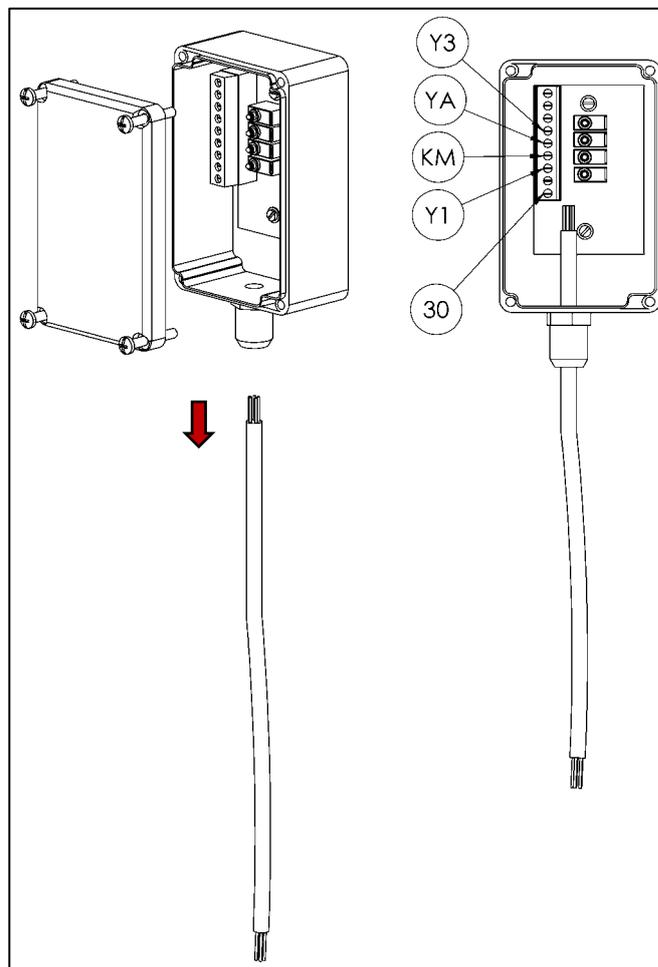

Figure 34
- Disconnect the service switch box from the cable by loosening the screw terminals in the housing (see Fig. 34).
- Reconnect the service switch to the routed cable as shown in Fig. 34.